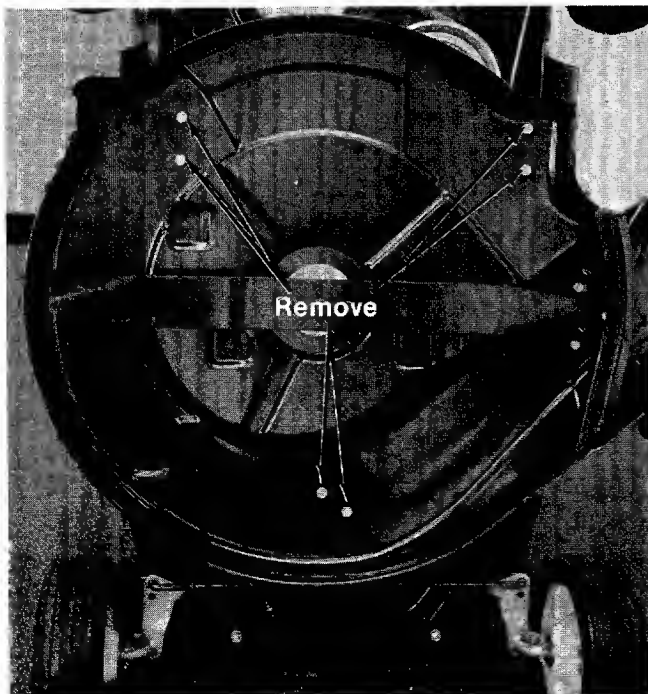

FIGURE 21. DECK REMOVAL
3. Remove six hex screws, nuts and lock washers holding the deck. See figure 21.